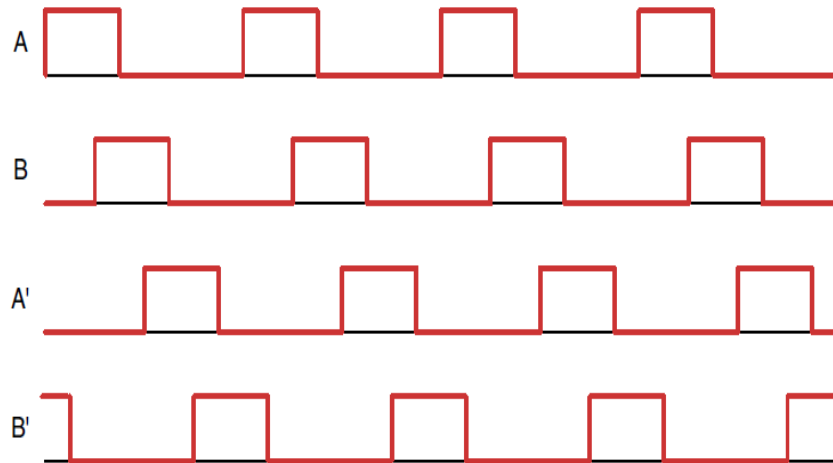

Fig.3.17 Drive sequence in half step mode
- Figure 3.17 illustrates a control signal for a stepper motor driven in half-step mode.